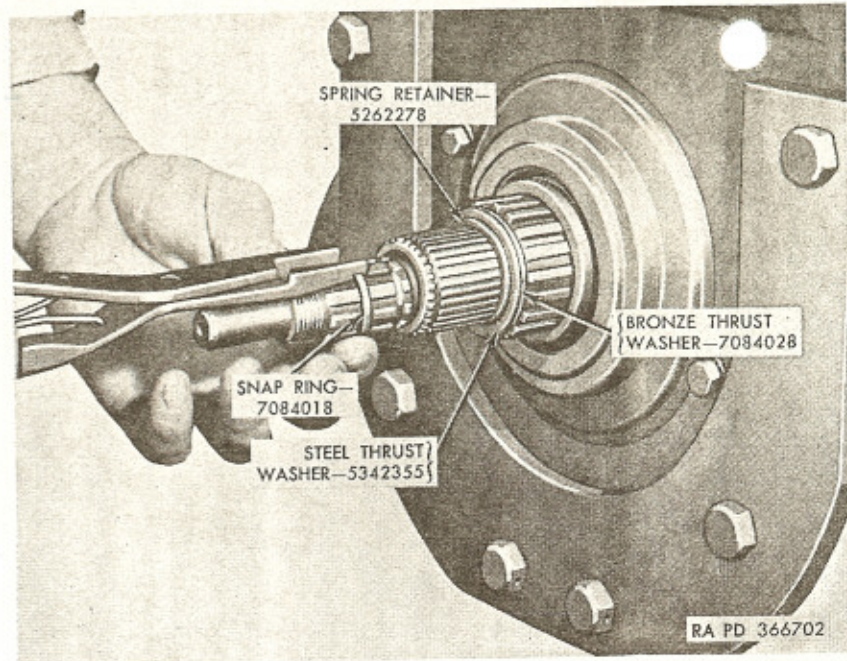

Figure 42. Removing or installing input shaft snap ring.
a. Remove snap ring (fig. 42) from input shaft using snap ring pliers.
b. With snap ring pliers, remove spring retainer (fig. 42) from planet carrier intermediate shaft, immediately forward of the front oil pump drive gear.
c. Remove steel thrust washer and bronze thrust washer (fig. 42).